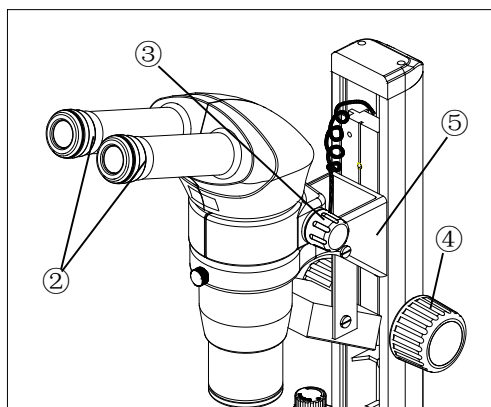
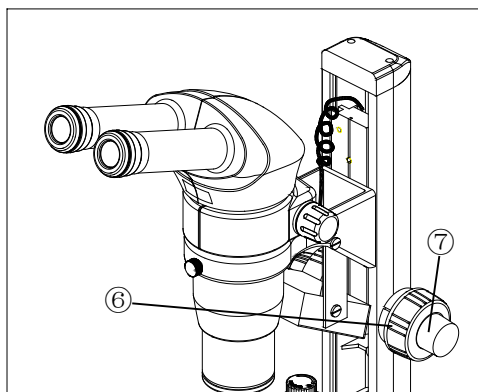

Fig. 11
Fig. 12
3.1.2. Adjusting diopter ring (Fig. 11, Fig. 12)
Fig. 11 shows the focusing part of Stereo Microscope NYMCS-360/361;
Fig.12 shows the focusing part of Stereo Microscope NYMCS-360. There are coarse focusing knob (6) and fine focusing knob (7) in this kind of microscope.
When $2\times$ objective is chosen, it is necessary to mount the binocular head bracket (5) onto the lower position. Remove the clamping bolt with provided hexagonal driver and move the bracket down to the lower position and set it with original bolt (Fig. 11).